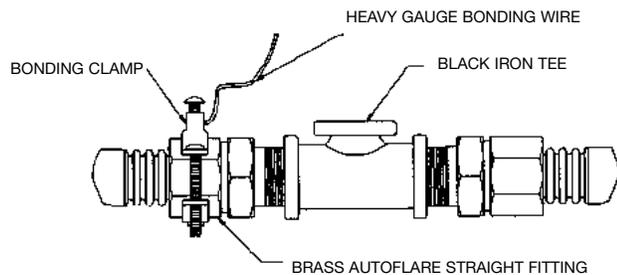

Figure 4-21
1. For bonding of the conventional yellow-jacketed **TracPipe**® system, a bonding clamp must be attached to the brass AutoFlare® fitting adapter (adjacent to the pipe thread area – see Figure 4-21) or to a black pipe component (pipe or fitting) located in the same electrically continuous gas piping system as the AutoFlare® fitting. The corrugated stainless steel portion of the gas piping system SHALL NOT be used as the bonding attachment point under any circumstances. Bonding electrode conductor sizing shall be in accordance with NFPA 70 Article 250 (Table 250-66) Paragraph (A).
- a. If possible, avoid running the bonding jumper a long distance through the building. The connection should be as short as possible. Gas meter should be near the electrical service if possible. If not, the bond can be connected at any point near the electrical service per Figure 4-21.